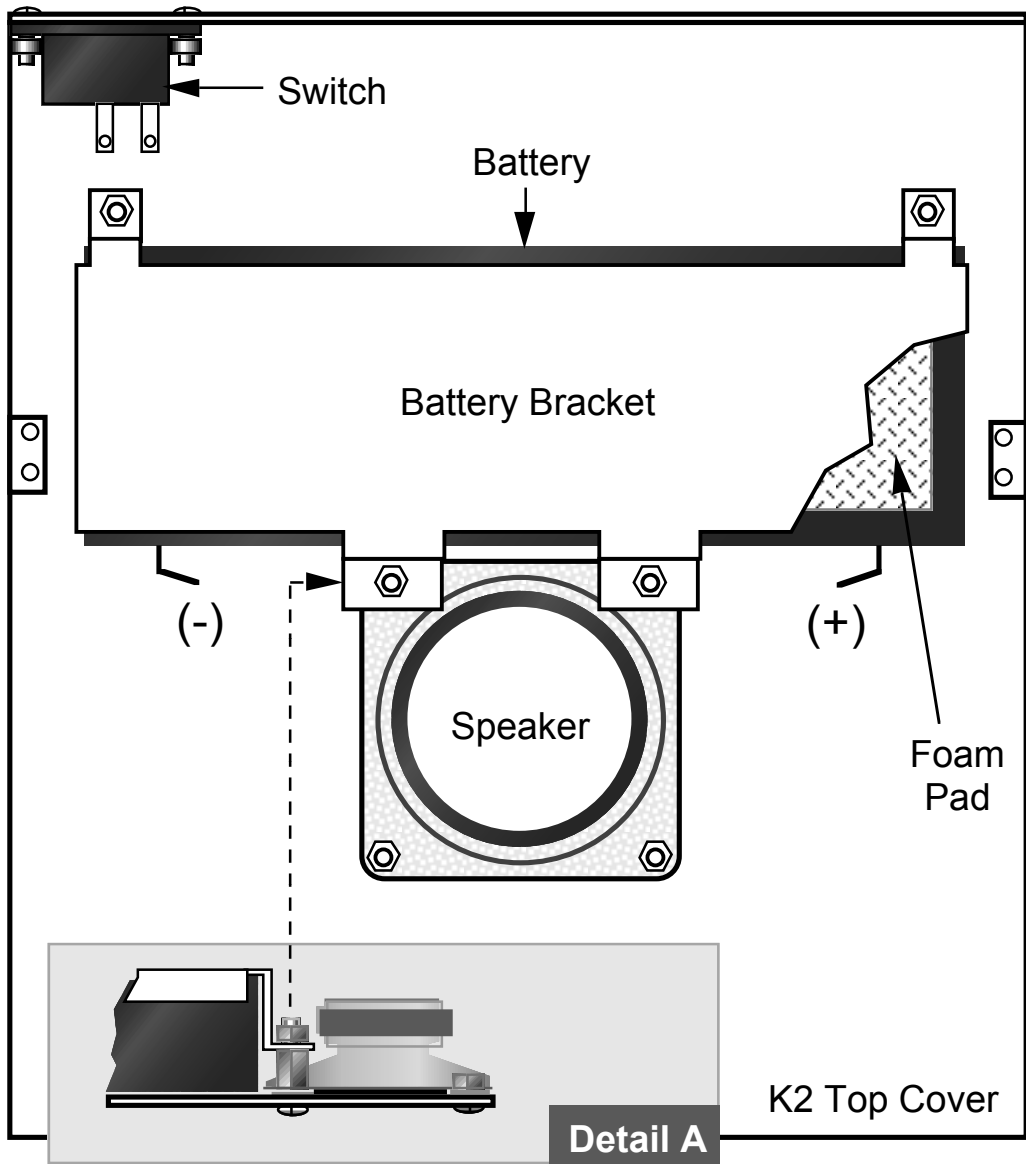

Figure 2
Refer to Figure 2 for the following steps.
- Install the battery cutoff switch in the top cover. The switch terminals should be oriented to the right as shown in Figure 2, corresponding to the "INT. BATTERY ON" label on the rear panel.
- Two hex male/female standoffs are used to secure the front edge of the battery bracket (Figure 2, Detail A). Install the hex standoffs onto the two 1/4" (6 mm) speaker screws installed in the previous step